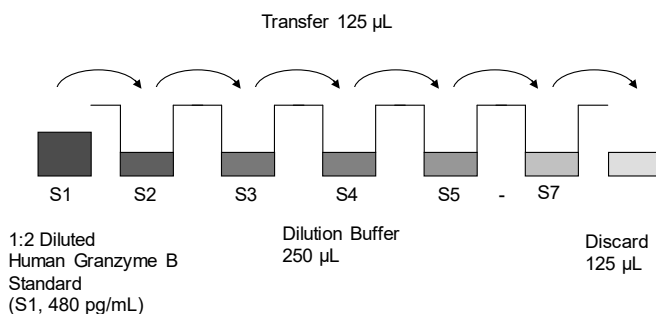

Figure 7 Dilute standards - tubes.
5. Repeat serial dilutions 5 more times thus creating the points of the standard curve (see Figure 7 on page 4).